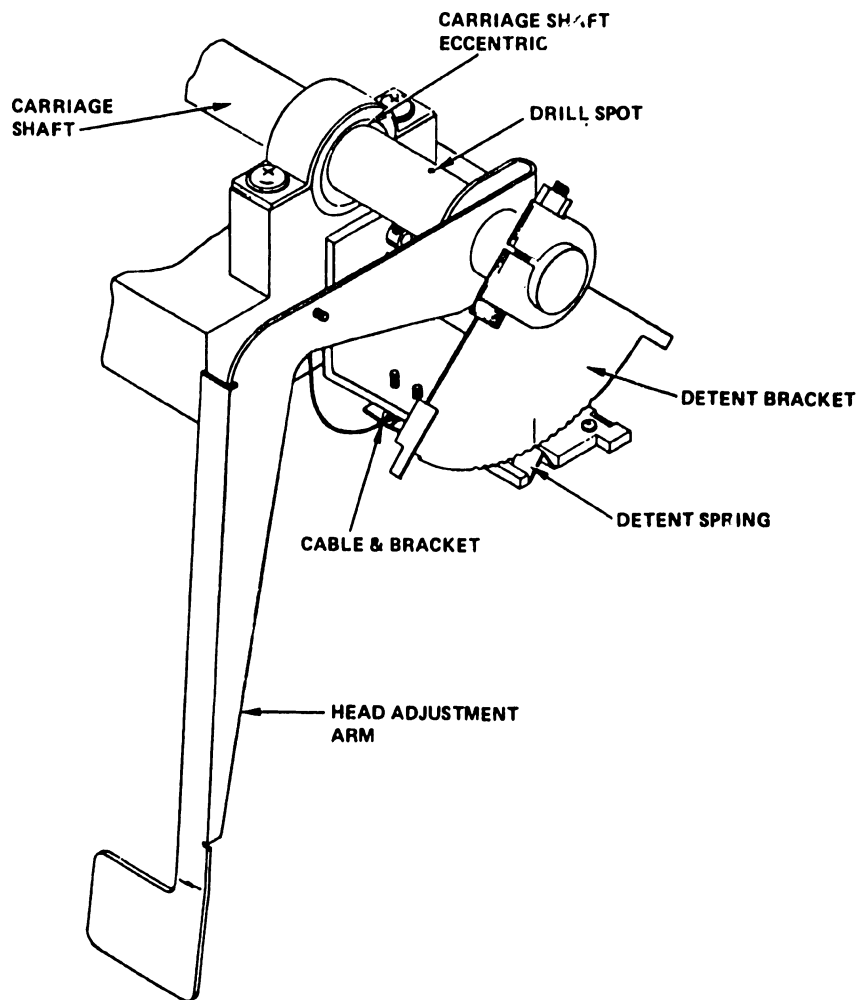

Figure 5-52. Head Adjustment Arm With Old Style Position Indicator
- a) Old Style - This version, installed in the first production units, consists of a cable fastened at one end of the head adjustment arm (see Figure 5-52), and at the other end to a sliding indicator mounted in the print head shield. To adjust this version, position the print heads all the way forward; then carefully bend the cable until the sliding indicator reads zero. Tighten the cable support brackets.